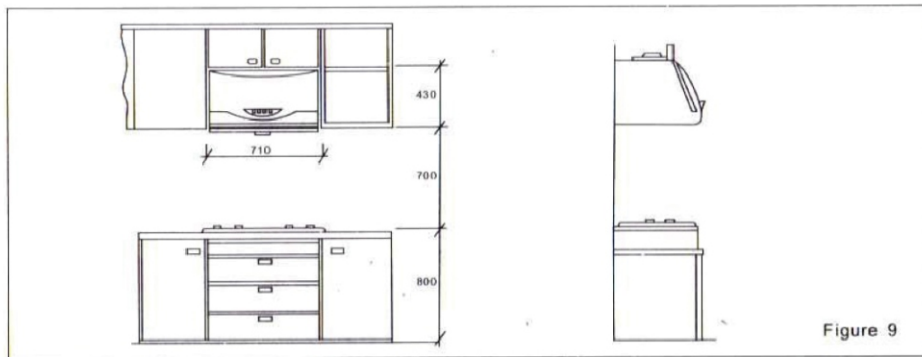

Figure 9
(1) According to the requests shown in figure9 bore a 40-50mm deep hole in the wall above the stove with +8mm drill bit, keep the organism level. The distance between the bottom of the organism and the stove is 700-750mm.